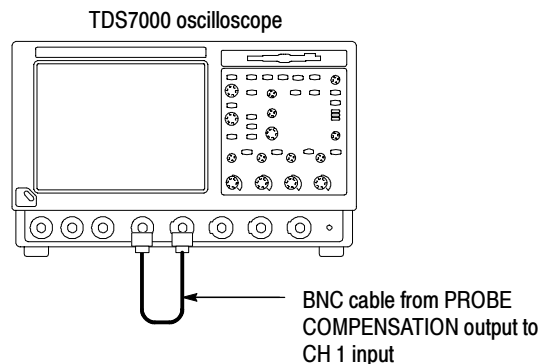

Figure 1-8: Setup for trigger test
2. *Hook up the signal source:* Connect the BNC cable from the probe compensation output to the CH 1 input as shown in Figure 1-8.